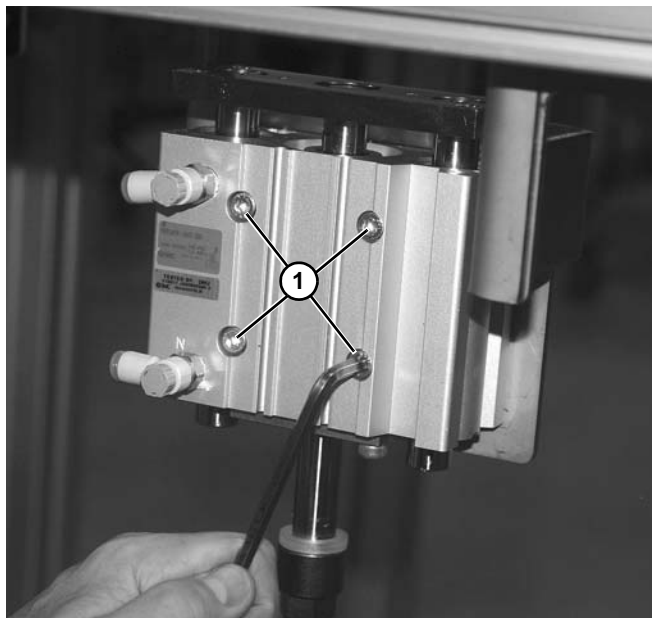

Figure 127
10. Remove four screws (Figure 127, item 1) securing lift cylinder.